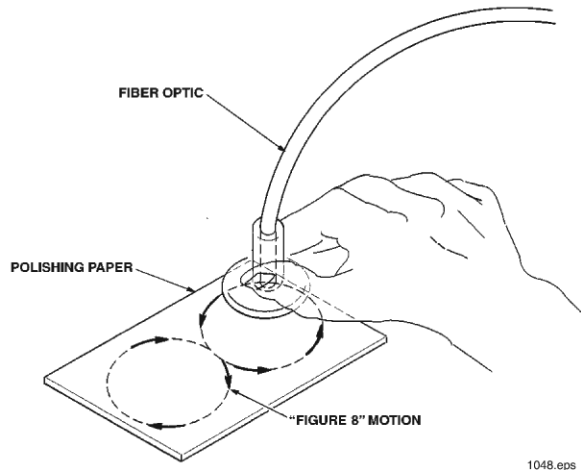

Figure 7. Fiber polishing showing the figure-8 pattern.
22. Polish the end of the fiber in a “figure 8” pattern as shown in Figure 7. Repeat the pattern while lightly pressing the tip of the fiber against the sandpaper. Use the polishing puck to hold the ferrule at a 90° angle (perpendicular) to the polishing surface to create the ideal polishing angle.